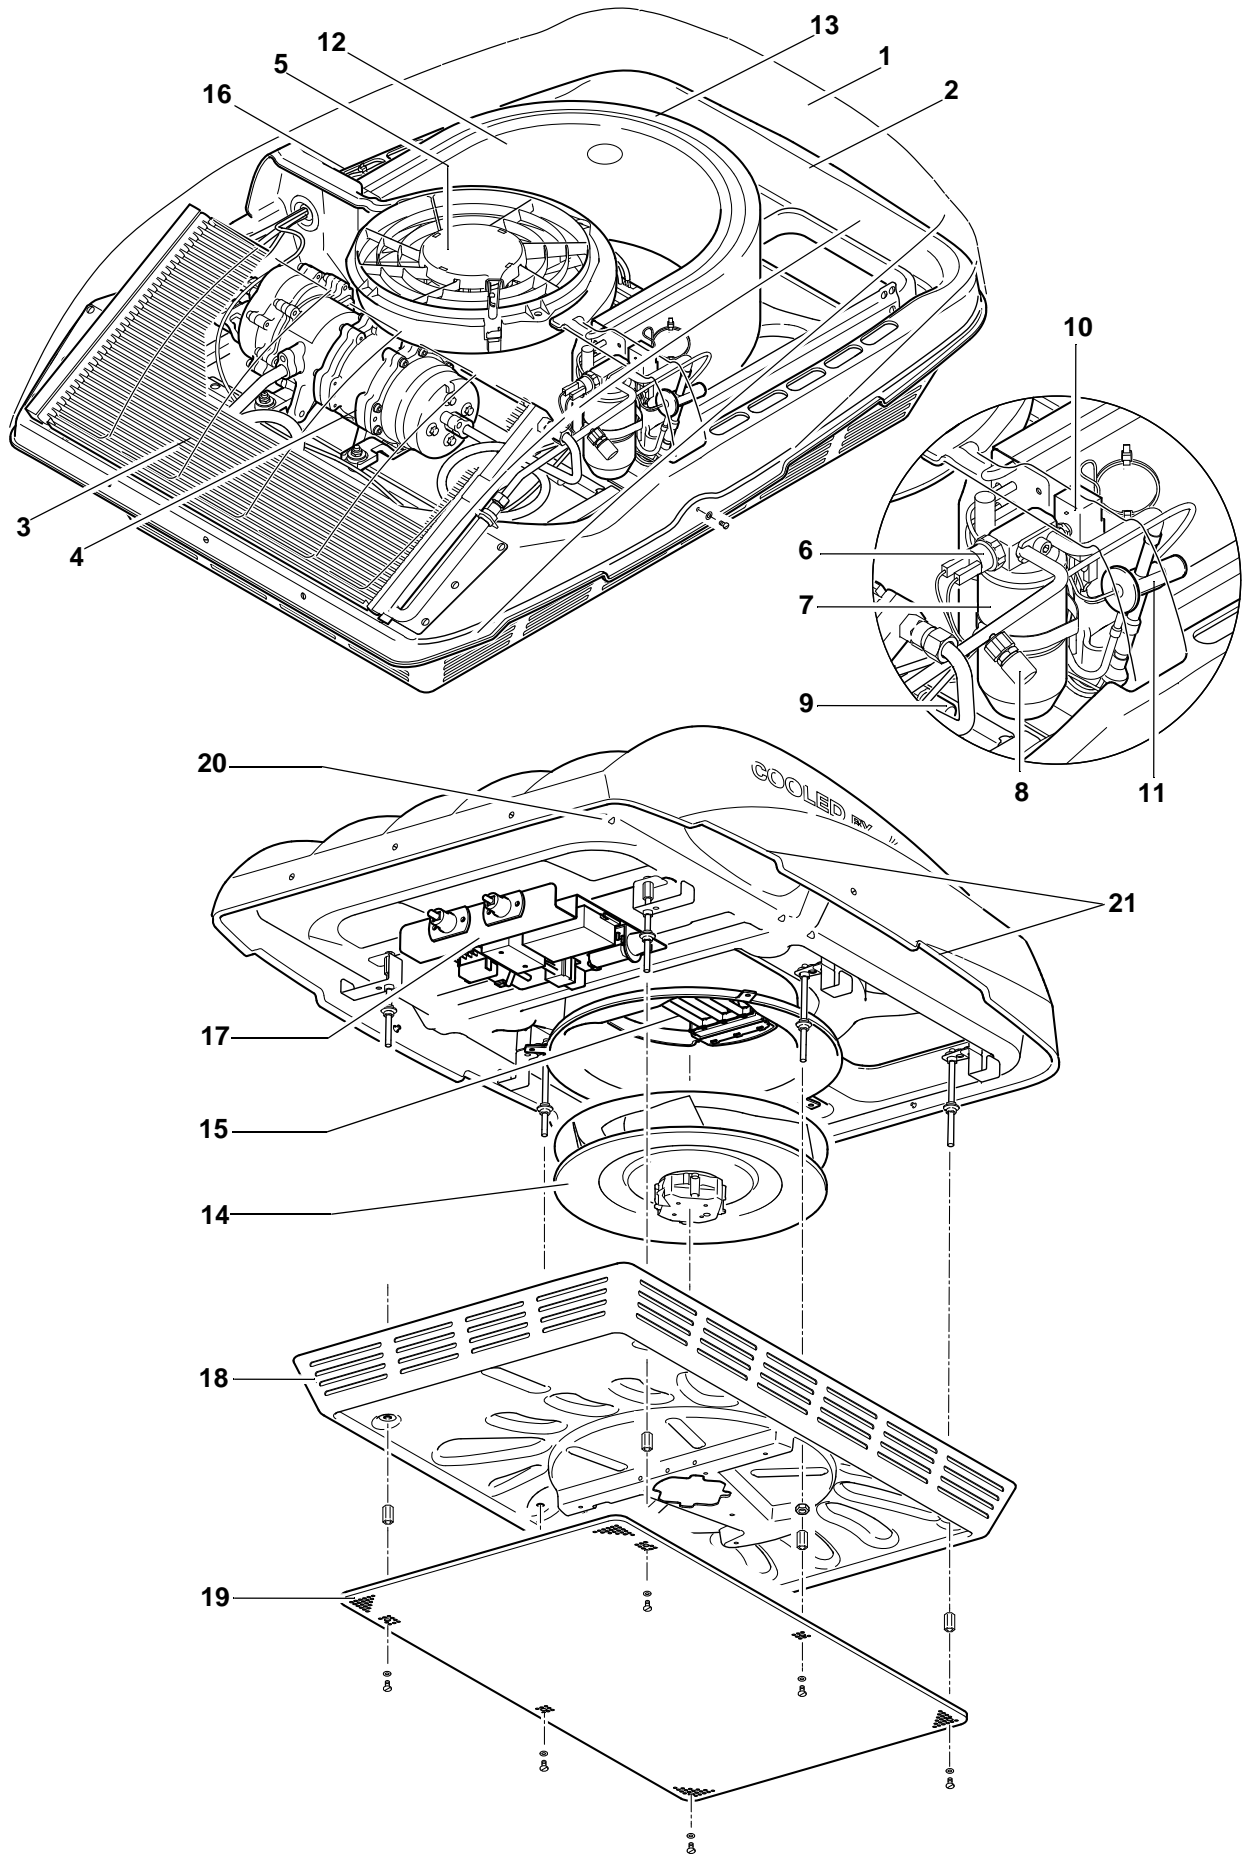

Fig. 2.3
The rooftop airconditioner-unit is shown in Fig. 2.3.
* Ref. to Fig. 2.3
Rainwater entering the rooftop system is discharged via several drain holes (20, Fig. 2.3).
The condenser (3, Fig. 2.3) consists of aluminium flat pipes and fins interconnected to form a large heat exchanger surface.
The receiver-drier (7, Fig. 2.3) is an expansion and storage reservoir for refrigerant. Its lower part contains a granulated desiccant, which extracts and chemically binds small amounts of water from the refrigerant. In addition it filters out particles of dirt from the refrigerant circuit which otherwise could lead to faults.
The thermostatic block valve (11, Fig. 2.3) with outer pressure compensation regulates the flow of refrigerant to the evaporator in accordance with the need for refrigerant resp. the temperature in the evaporator. The thermostatic expansion valve represents the control element between high and low-pressure part of the refrigerant circuit.
The evaporator (12, Fig. 2.3) consists of copper pipes and aluminium fins interconnected to form a large heat exchanger surface. In order to use the available space for construction best possible, the evaporator is bent U-shaped. The refrigerant flowing through the pipe from the expansion valve changes from the liquid to the gaseous state and superheats. The required evaporation heat is extracted from the cabin air flowing through the fins and is transmitted through the pipe to the refrigerant. The air dries as it cools and condensation water is drained overboard.
The pressure switch (6, Fig. 2.3) includes a high-pressure and a low-pressure switch. It measures the pressure in the high-pressure part of the refrigerant circuit and switches off both the electric motor and the compressor if the pressure is too low (e.g. due to loss of refrigerant) or too high (e.g. due to overheating in the condenser).
The anti-icing switch (10, Fig. 2.3) is a temperature switch. It measures the temperature of the refrigerant at the injection pipes of the evaporator and switches off the compressor if there is any risk of ice forming or lack of refrigerant.
The axial fan (5, Fig. 2.3) comprises a brushless DC motor, a fan wheel, a housing and a protective grille. Once the air conditioning system is switched on, the fan will be activated by the control system via pin 3 (yellow wire) and will supply the condenser with the required outside air (no speed regulation - On/Off only).
The evaporator fan (14, Fig. 2.3) comprises a brushless DC motor and a fan wheel. It draws cabin air and fresh air through the evaporator and the electrical heater (comfort version only), and blows the air back into the cabin via the air-diffusor. Fan speed control by the control system is accomplished through a digital signal (PWM-signal) via pin 3 (yellow wire). The fan speed is controlled automatically, or if desired, manually.
The compressor (4, Fig. 2.3) comprises a semi-hermetic housing with integrated scroll compressor, brushless DC motor, and electronics. When the air conditioning system is switched on, the compressor will be activated via pin 1 of the compressor's cable harness, and driven with the required revs per minute (PWM-signal). When in operation, it compresses the refrigerant to the required condensation pressure. The integrated electric motor includes a soft-start function to prevent current peaks being transmitted to the on-board supply, a voltage monitoring (16 V to 32 V), an overload protection, and a temperature monitoring of electronics (to 93°C). Outboard limits the compressor is switched off. Restarting is effected by repeatedly switching on the system.